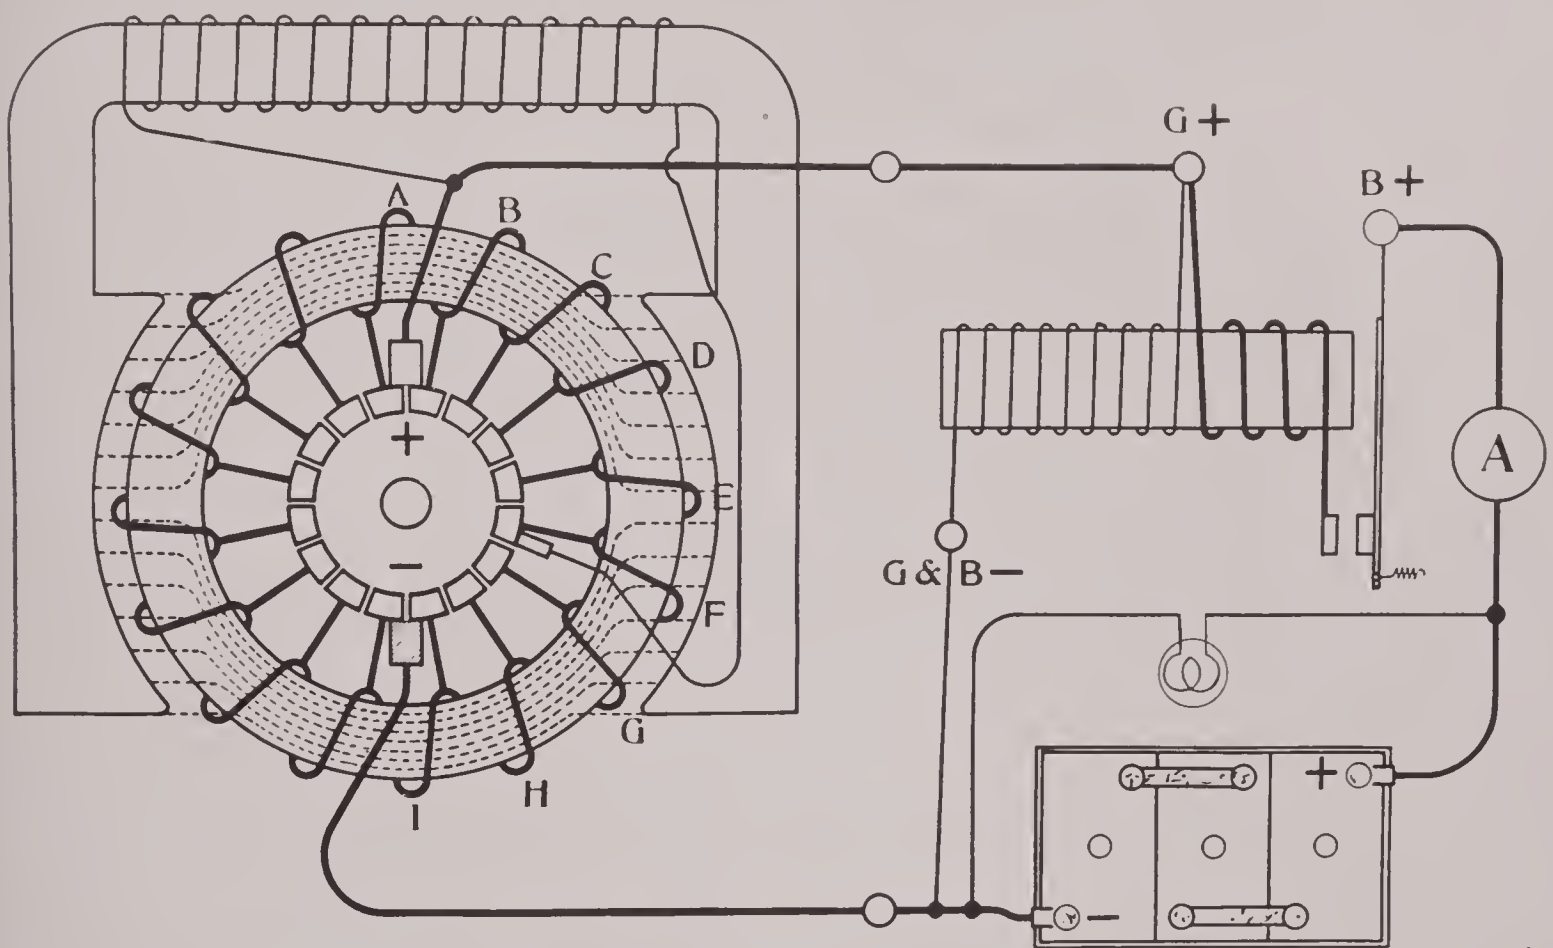
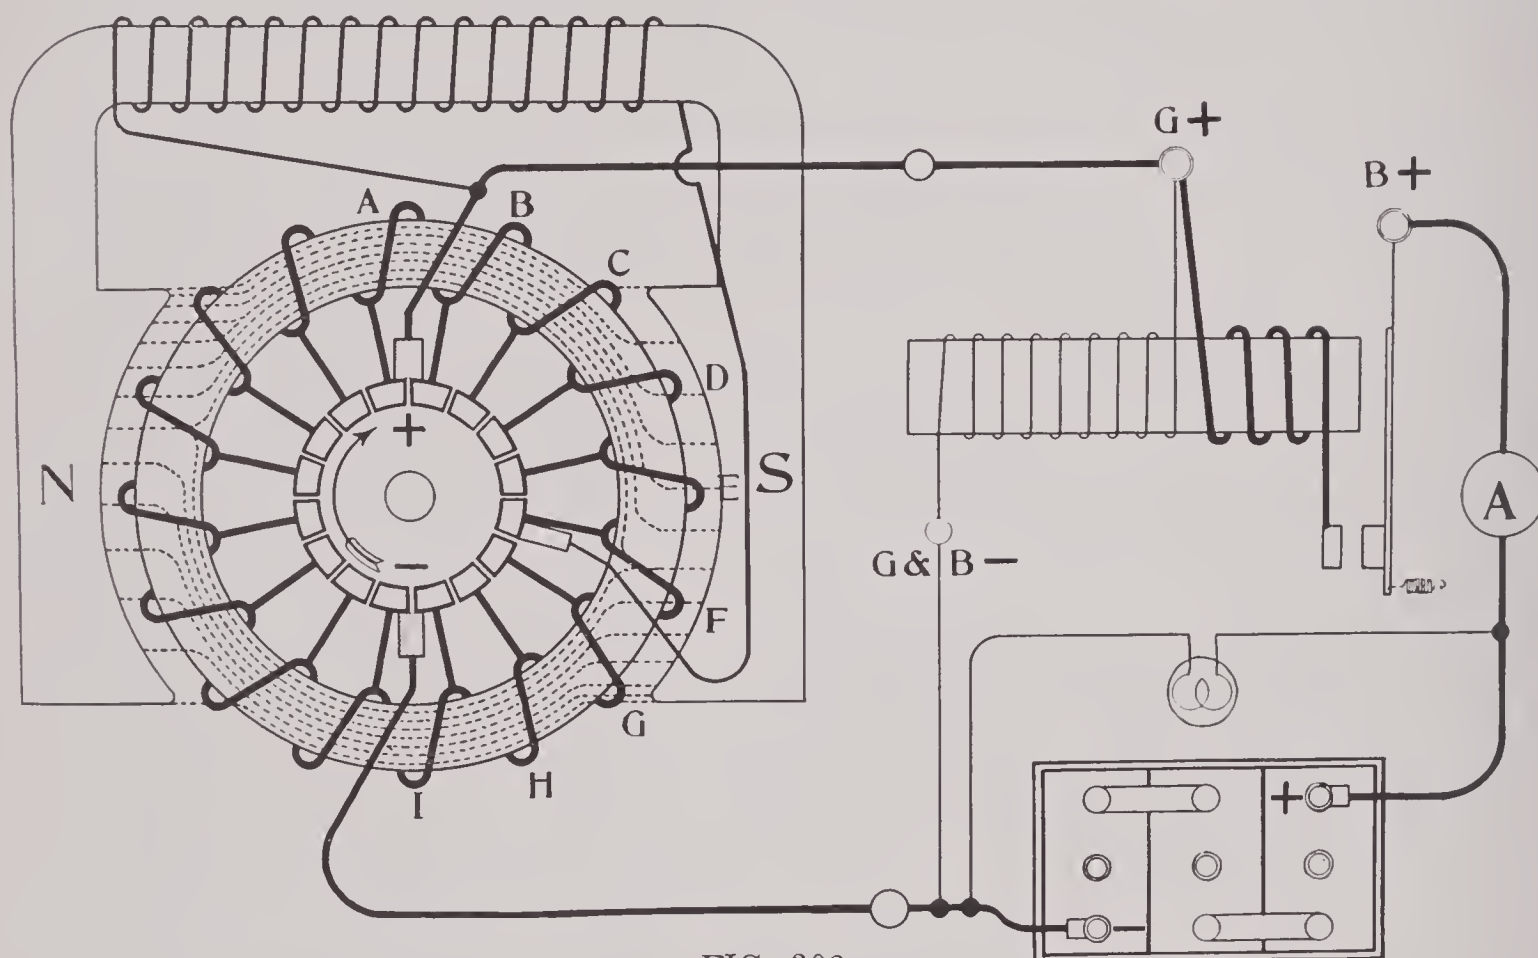

FIG. 302
FIG. 303
A general idea of field distortion produced by the reaction of the armature current on the field can be gained by comparing Figs. 302
and 303. In Fig. 302 the field is of uniform strength on both sides of the armature, but in Fig. 303 the lines of force are crowded towards the upper tip of the north pole and toward the lower tip of the south pole. This twisting of the lines of force out of their natural path is caused by the magnetic field set up by the current in the armature coils. The current sets up lines of force about the armature conductors which push the lines forming the field forward, distorting the field. The stronger the current in the armature coils the farther the lines are pushed out of their path, and the more the field is distorted.
In Fig. 302 it is assumed that the generator is running just fast enough to generate six volts, a voltage that is not high enough to close the cut-out relay contacts. The only current now passing through the armature is the shunt field current, which is comparatively weak, and not strong enough to distort the field to a noticeable extent. In Fig. 303 it is assumed that the generator is running faster, generating about $7\frac{1}{2}$ or 8 volts, a voltage that is high enough to close the cut-out contacts, and charge the battery at about a 15 ampere rate. The current now passing through the armature is 15 amperes plus the field current. Current flowing through the armature at this rate is strong enough to distort the field considerably.
not possible to give in the description exact values for the E. M. F. in the armature conductors or the strength of the charge current, since Figs. 302 and 303 are merely illustrative and do not show as many armature conductors as must be used in a generator. However values have been given which will illustrate the conditions in a generator having field distortion regulation while it is in operation.
In Fig. 302 the speed of the armature is such that 6 volts are generated. The strength of the E. M. F. induced in the conductors as they pass points (C), (D), (E), (F) and (G) are respectively about $\frac{1}{2}$, $1\frac{1}{2}$, 2, $1\frac{1}{2}$ and $\frac{1}{2}$ volts. The conductor while passing point (C), will not have as high an E. M. F. induced in it as when passing point (E), since at (C) it is not moving directly across the lines of
When the voltage is increased by further increasing the speed of the armature, the cut-out relay closes and the generator forces current through the battery in the direction to charge it. When the armature reaches the speed at which the voltage is about $7\frac{1}{2}$ volts, the charge current is about 15 amperes. As the current of 15 amperes is drawn through the armature, the field is so distorted that the condition represented in Fig. 303 is produced. Since the lines of force are now crowded toward the top of the north pole and toward the bottom of the south pole, the conductors as they pass points (C) and (D), cut fewer lines than when passing points (F) and (G). The values of the E. M. F. induced in the conductors now as they pass points (C), (D), (E), (F) and (G), are about $\frac{1}{4}$, $\frac{3}{4}$, 2, $2\frac{1}{2}$ and 2 volts respectively. Their combined E. M. F. is $7\frac{1}{2}$ volts, which is the force drawing the current through the armature from the negative brush and forcing it to the positive brush. The E. M. F. drawing the current from the third brush to the positive brush is the sum of the E. M. F. in the conductors passing points (C), (D) and (E), or 3 volts. The force now drawing the current through the shunt field is less than before the field was distorted, hence the current in the shunt field is less and the field is weaker.